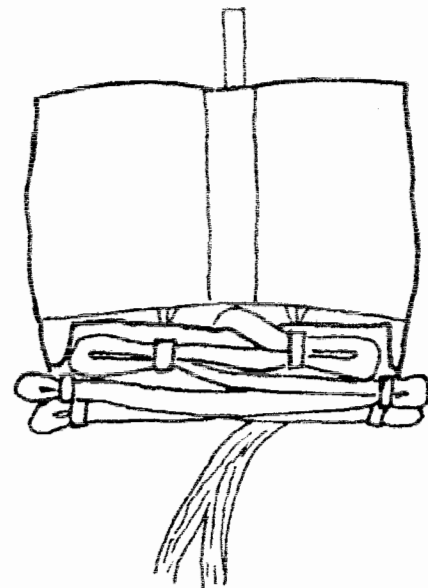

FIG. 10
5) Turn the bag up on its top end and stow the remaining suspension lines in the line stow pouch. "S" fold the lines, using the full width of the pouch, leaving 6" to 12" between the bag and the connector links. Route the suspension lines out the narrow channel between the velcro closures of the line stow pouch as shown in FIG.10.
9) Stow the rest of the suspension lines in the elastic bands which have been installed in the loops at each side of the bag. It has become common practice to "double-stow" these line stows by wrapping each band around the lines twice for a better grip. Experience does indicate that deployments are more consistent and better staged when the lines are double-stowed. However, *do not double-wrap the locking stows*. After stowing the lines as described, the bag should look like FIG. 10, and there should be 10" to 12" of lines unstowed between the last stow and the risers.